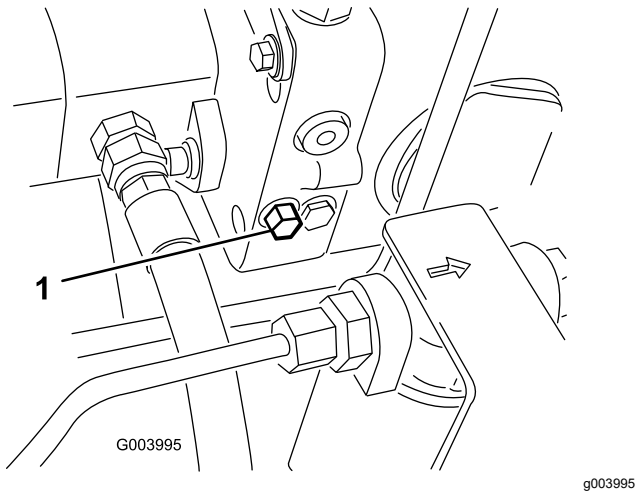

Figure 62
1. Locate the bypass valve on the left side of the hydrostat (Figure 62).